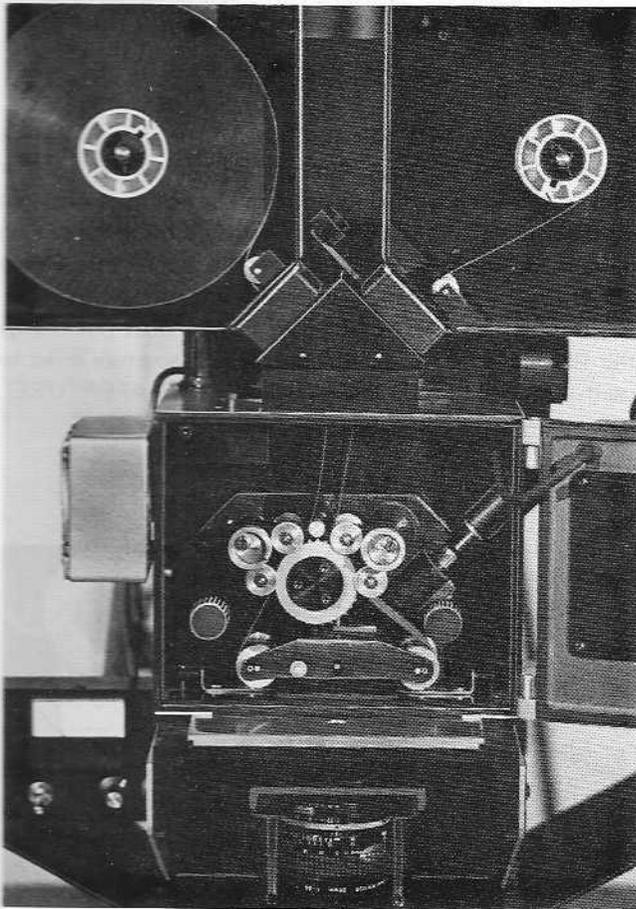

Figure 9. Loading the Magazine
**5.6 LOADING THE MAGAZINE.** Two identical 35/46mm magazine chambers are provided with the camera: one to use for holding raw stock and the other to accept the exposed film. The magazines accept up to 400 foot rolls of film wound on either plastic cores or metal flange daylight load spools. Magazines should be loaded in the darkroom. To load the magazine (see Figure 9), remove the cover by opening the latches and use the 1" diameter adapter if required. Position the film to unwind clockwise. Thread the end of the film through the light trap rollers so that the base is toward the guide rollers, replace the cover tightly and close the latches. The loaded magazine is now light-tight and ready for insertion on the camera.